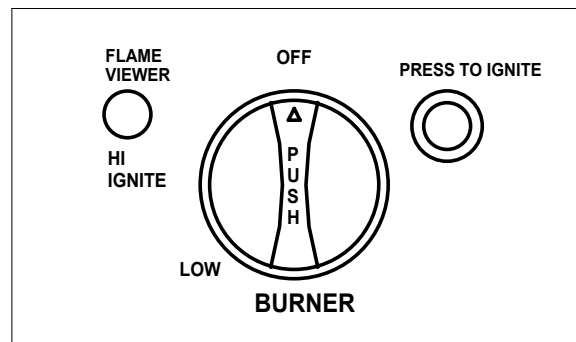

FIGURE 5
5. While pushing the burner control knob down (SEE FIGURE 5) and turning the knob counter-clockwise to the HIGH position.
7. Once the barbecue has been preheated, adjust the control knob for proper cooking temperature (SEE FIGURE 5). **DO NOT LEAVE THE BURNER ON THE HIGHEST SETTING FOR AN EXTENDED PERIOD - THIS CONDITION MAY DAMAGE YOUR BARBECUE.**
8. To shut off the barbecue after use, turn burner control knob clockwise to the OFF position. (SEE FIGURE 5) After the flame goes out, turn off the gas supply at either the LP gas cylinder or the Natural Gas line valve.